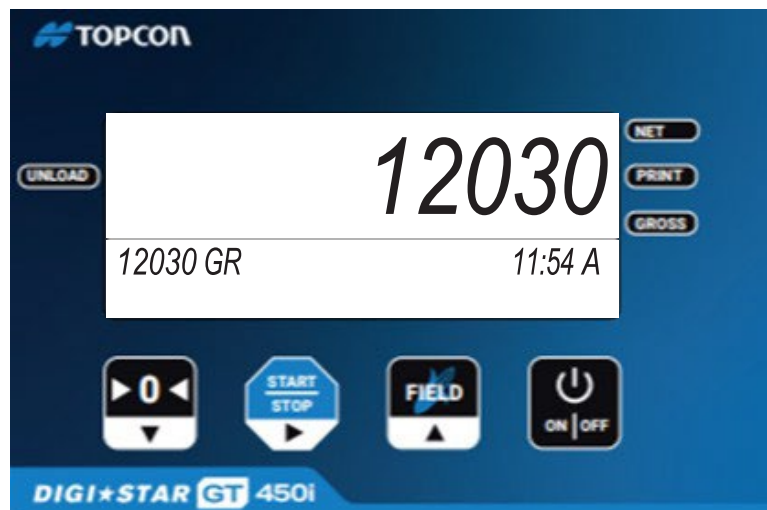

Figure 2-1: Turn On Indicator
1. Press **ON/OFF** to turn the indicator on, (Figure 2-1).